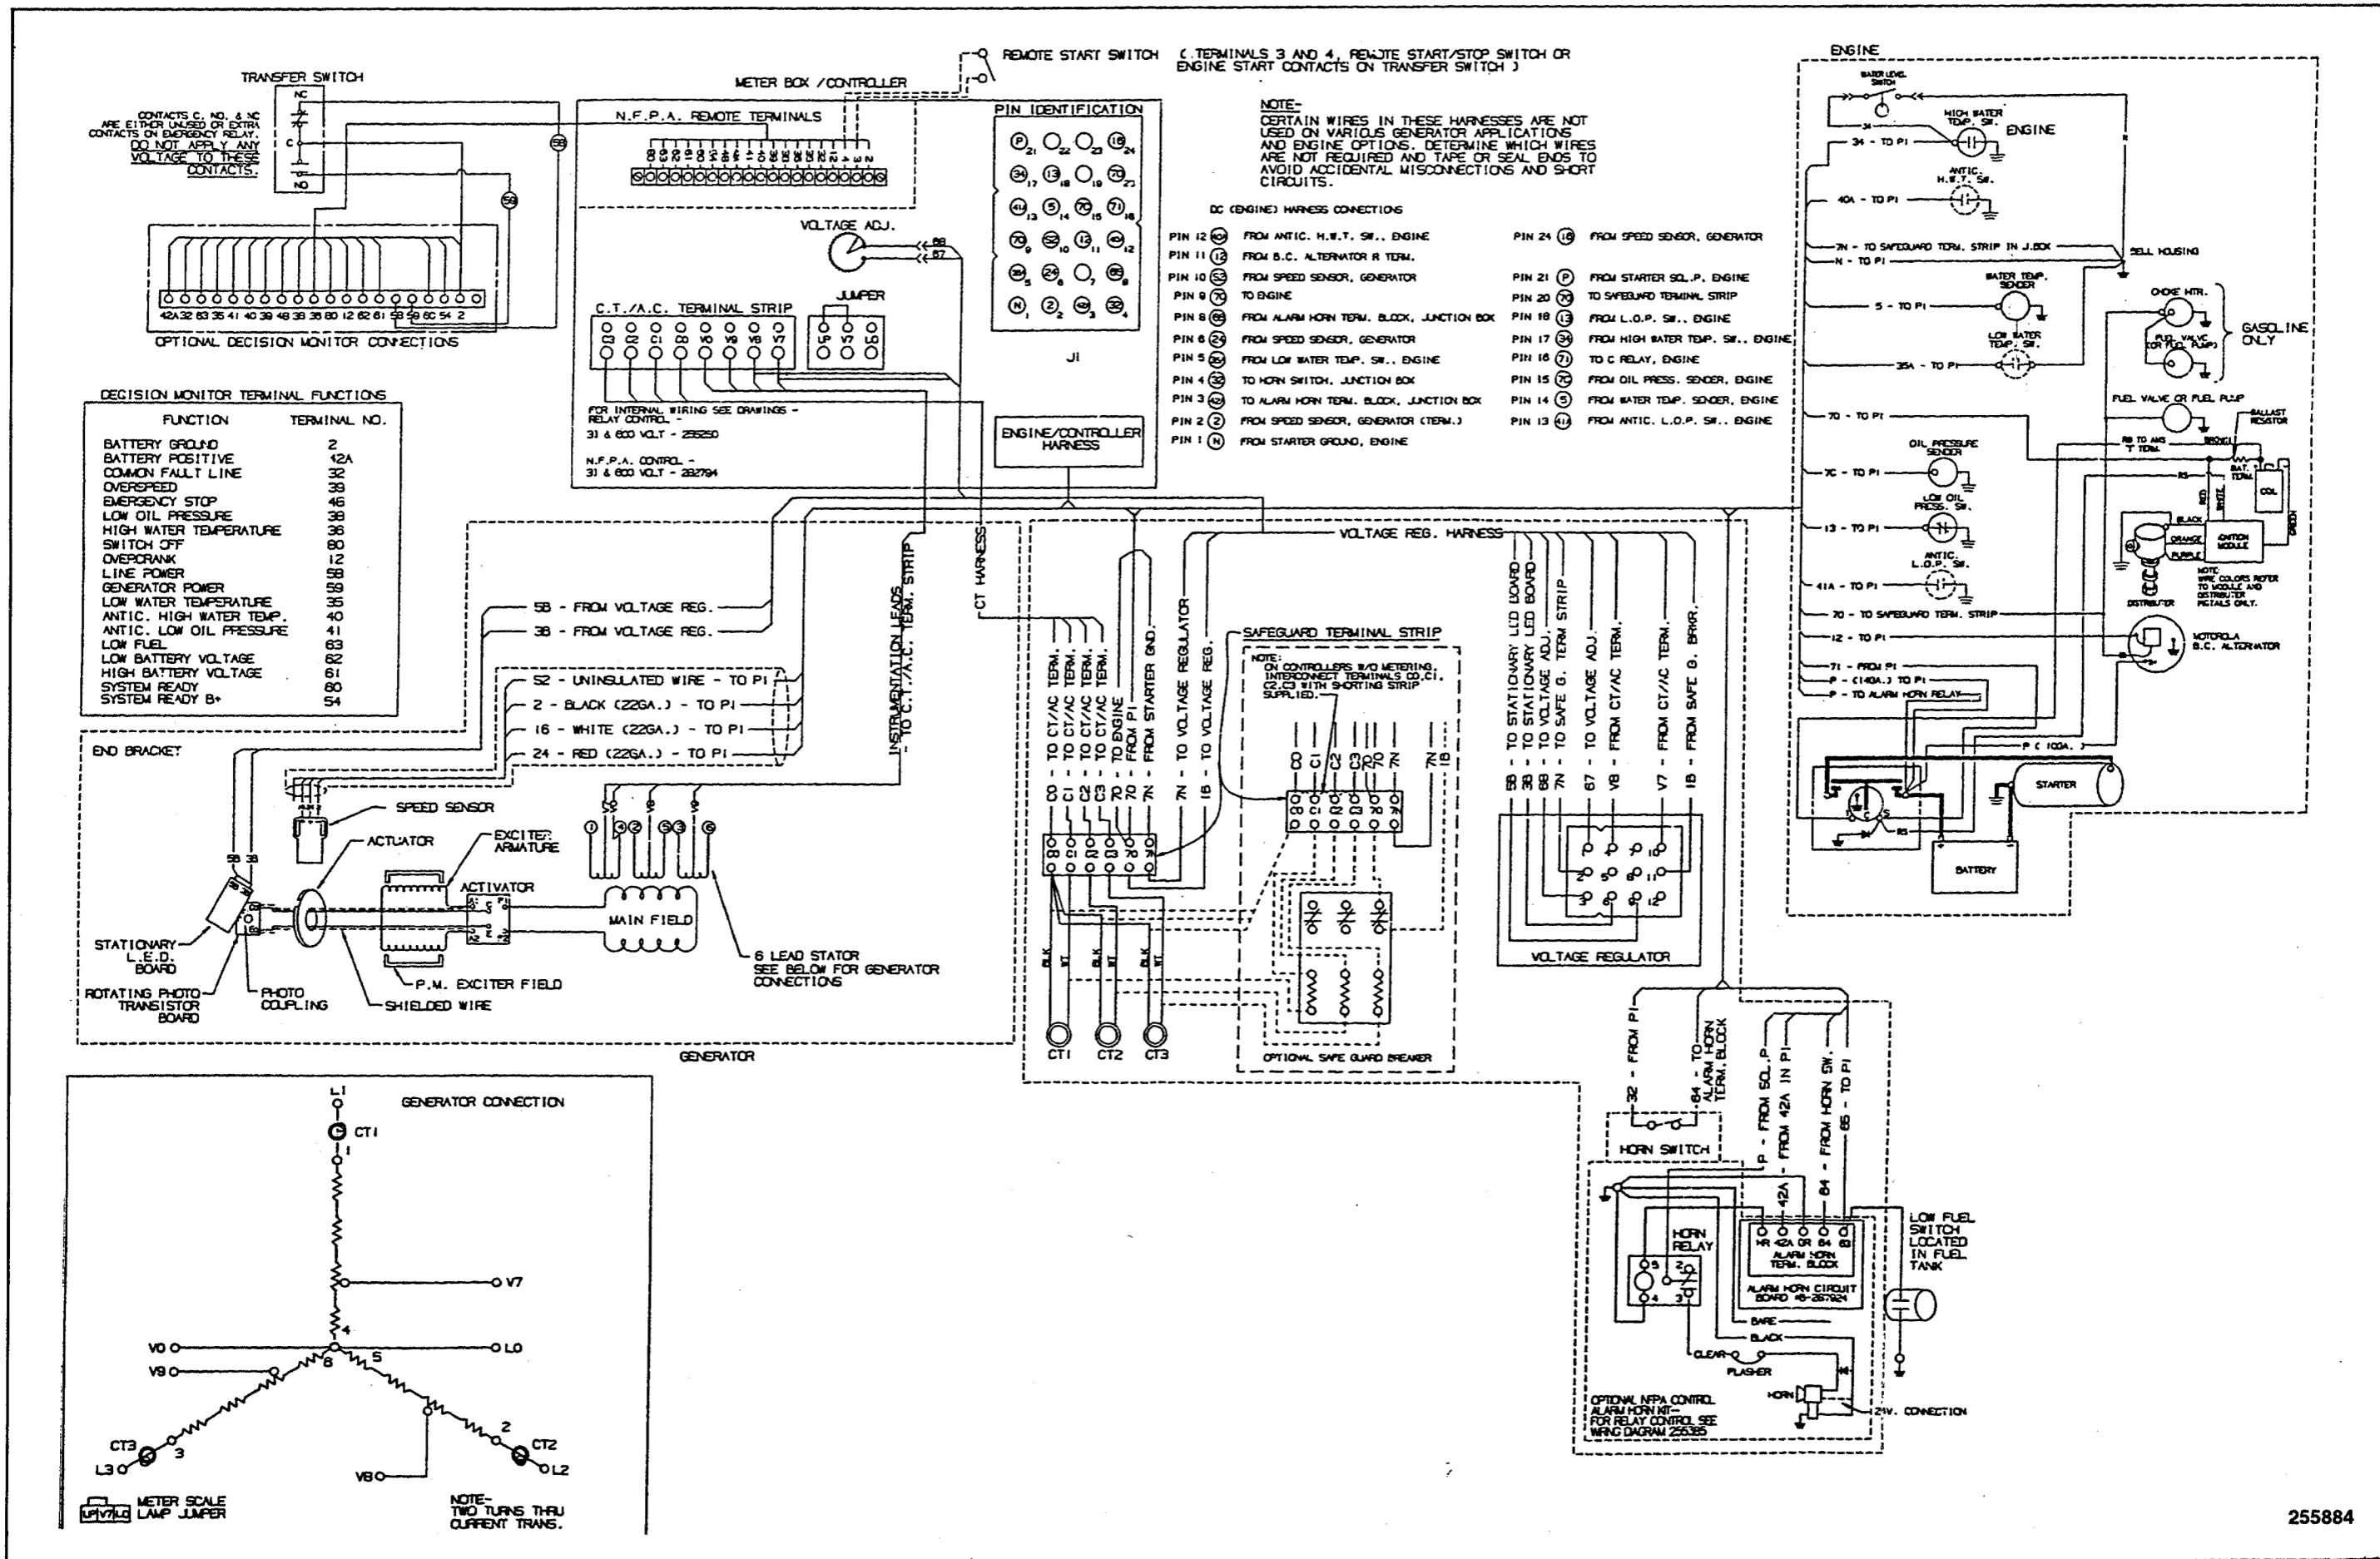

Figure 7-6. Ford CSG-649 Gas/Gasoline w/Electronic Ignition, 600-Volt
- Figure 7-6. Ford CSG-649 Gas/Gasoline w/Electronic Ignition, 600-Volt